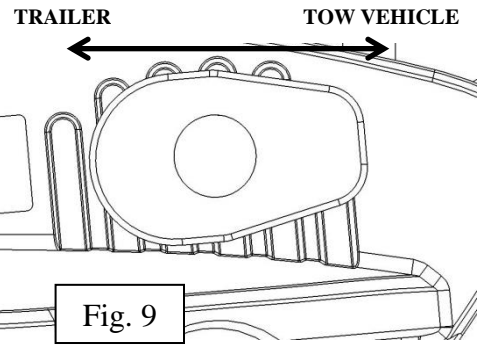

Fig. 9
17. Set the ball mount angle by aligning the toothed washer with the grooves on the ball mount as shown in Fig. 9.